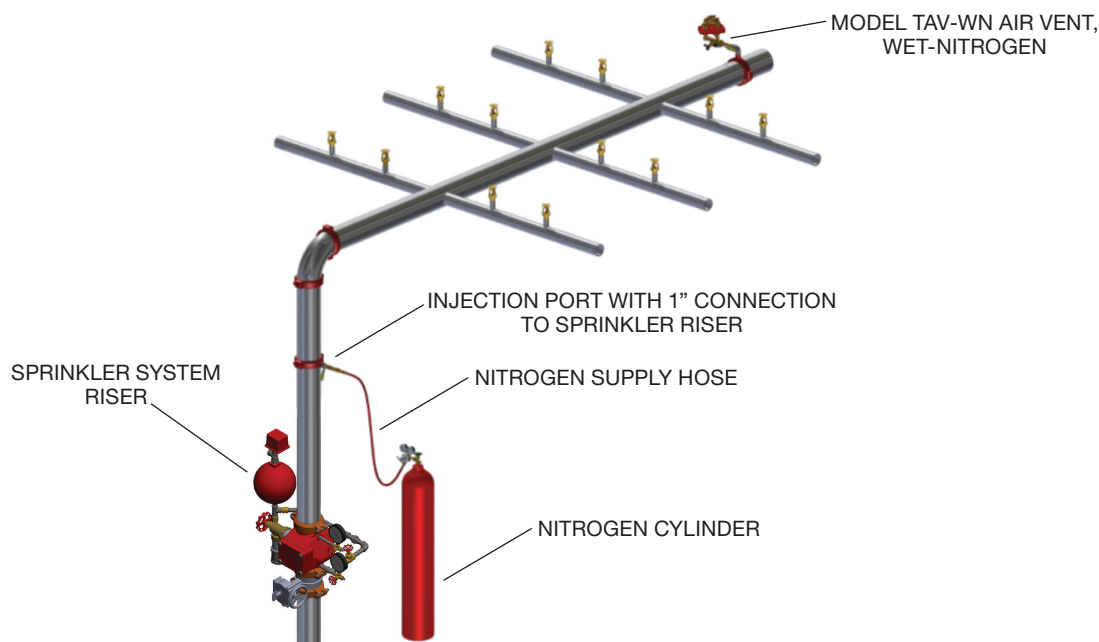
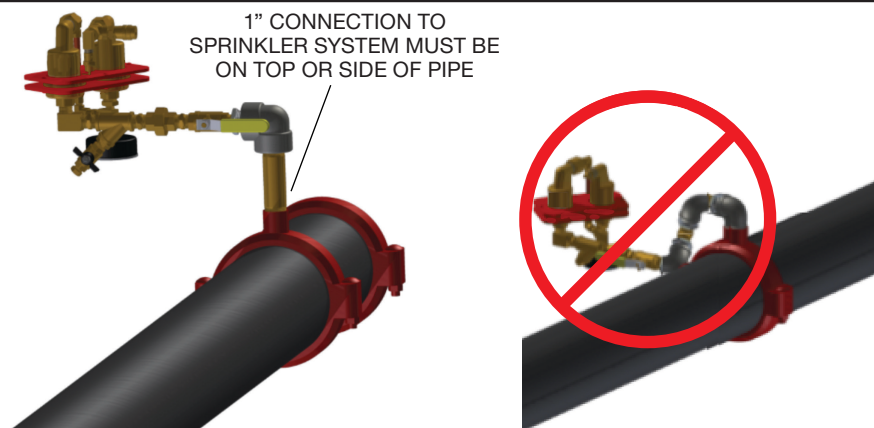

FIGURE 2
FIGURE 3
Step 3. Install the Model TAV-WN Air Vent Injection Port at the fire sprinkler system riser on the system side of the main control valve, see Figure 2 and Figure 3. Install a 1 in. outlet (welded or mechanical) to connect the nitrogen injection port to the fire sprinkler system riser.